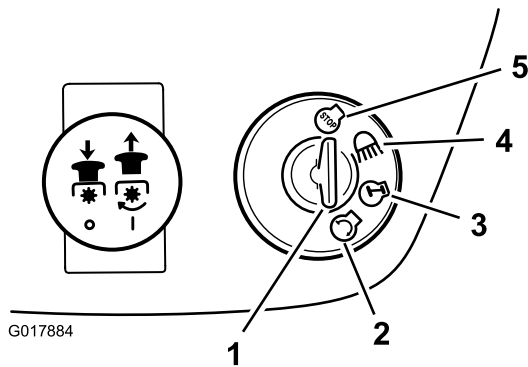

**Figure 9**
6. When starting a cold engine, push the throttle control lever fully forward to the choke position (Figure 9).
8. After the engine starts, slowly shift the throttle control lever to the Fast position (Figure 9).
1. Move the throttle control lever to the Slow position (Figure 9).
2. Turn the ignition key to the Off position (Figure 9).